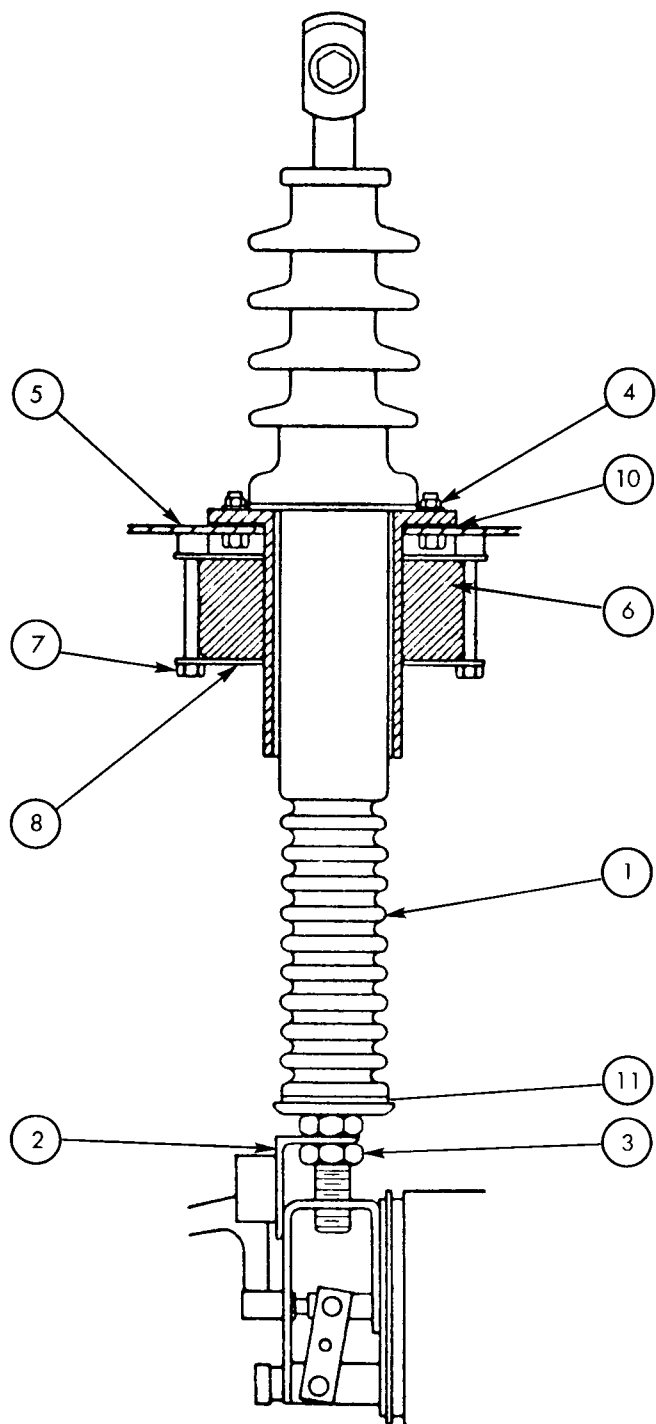

Fig. 20. Bushing Assembly and Bushing Current Transformers.
BUSHING CURRENT TRANSFORMERS (Figure 20)
Any one of the six bushing assemblies (see Fig. 20) may be readily exchanged by removing the LOWER CONTACT NUT (3) that clamps the interrupter SUPPORT BRACKET (2), and then removing the three FLANGE NUTS (4).